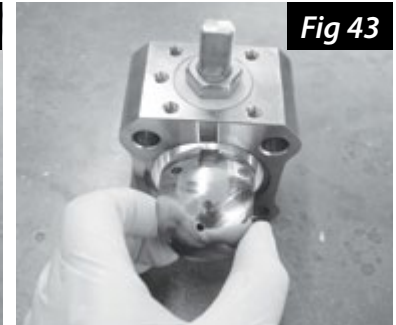

Fig 43
5. If you have not already done so, rotate the valve stem and ball to the "closed" position to remove the ball. Gently push the ball to remove it from the center section of the valve (Fig 43). Place the ball in a safe location for reuse or if replacing the ball it can now be discarded. **Note: If the ball is damaged due to corrosion or some other means, you can purchase a new one by contacting A&N Corporation's sales department.**